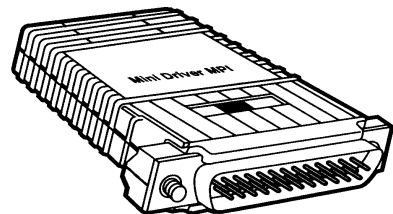

Figure 15-2 RS-232 Short-haul Line Driver
An RS-232 short-haul modem or Line Driver (see Figure 15-2) is needed to boost transmission for PCs located more than 50 feet from the Strata DK System. A suitable Line Driver is made by Black Box® Corporation at (412) 746-5500, Model ME764A-MSP (male) or ME764A-FSP (female).